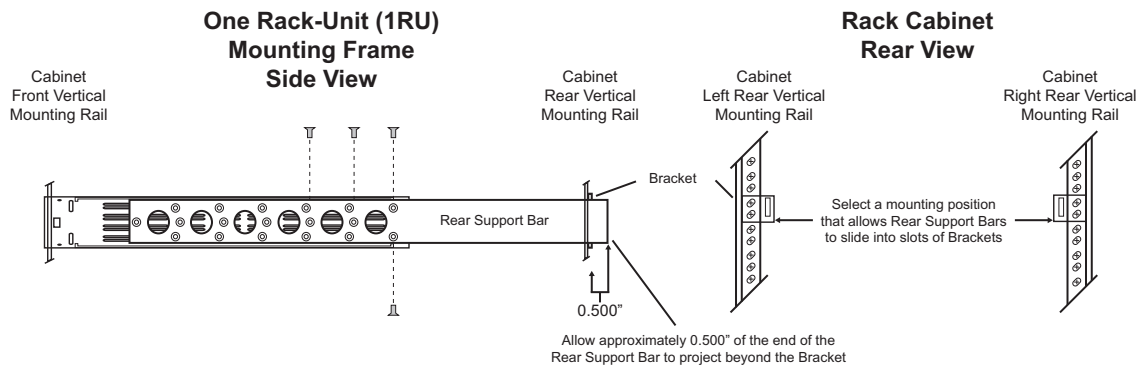

Figure 4.1 Installing the Support Brackets
In some cases, (mobile trucks, etc.) it may be desirable to also support the rear of the SRG-4500. The rear support bars can be attached to the SRG-4500 in six possible positions. (Figure 4.1)
2. Using four screws per bracket, as shown in **Figure 4.1**, attach both bars.